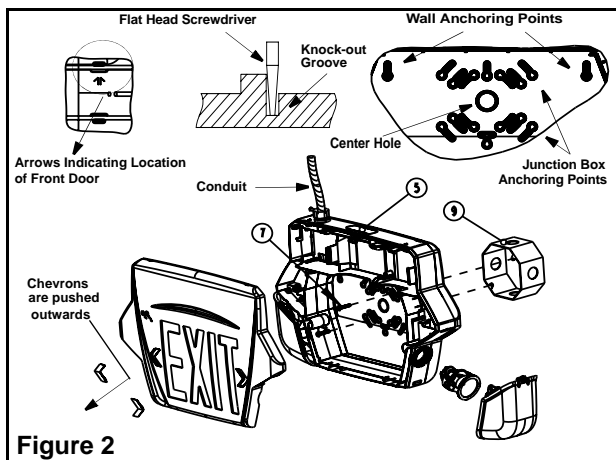
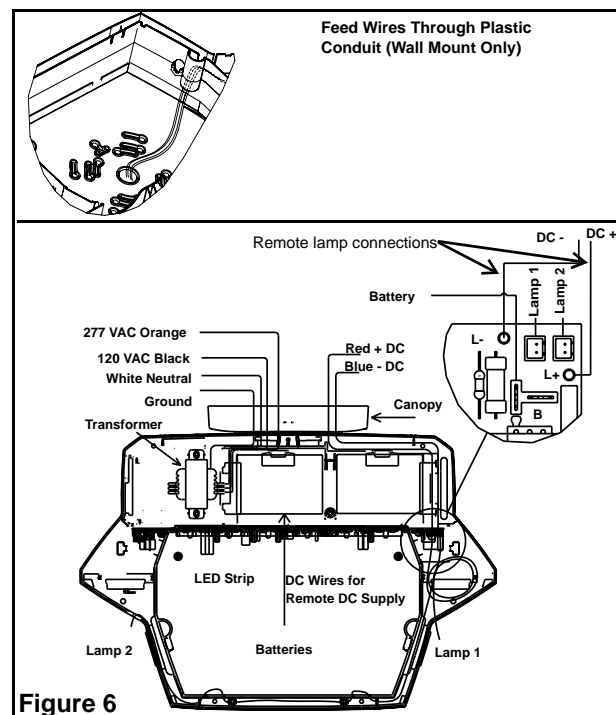

Figure 2
Figure 6
3. Remove face plate screws (only for some models). Remove the combo front door using a coin or a screwdriver at the top or bottom of the door. Arrows on the frame point towards the front door (See Fig. 2).
4. Determine the mounting position (wall or ceiling). Note: a canopy(6) is required for ceiling mount.
No canopy required. Remove the battery(s) with wires. With the help of flat head screwdriver, knock out the proper hole pattern on the back cover, including the center hole, to mount to a standard junction box as well as the two wall anchoring points (See Fig. 2). Install means to anchor unit in line with "Wall anchoring points". Feed the AC supply leads (and DC leads for remote lamps if applicable) around inside the housing, through the plastic conduit and out through the center hole and make the proper connections (See Fig. 6). Feed the excess wire into the junction box. Secure the back plate to the wall at wall anchoring points using wall mount screws(16), then to the junction box using the junction box screws(7). Proceed to step 6.
Remove knock-out for the conduit entry located on the top of the central housing (See Fig. 2).
7. Remove the appropriate chevron(s) on the exit door by holding sign with both hands. Push chevrons from the inside with thumb (See Fig. 2). You will need to unsnap the diffuser panel to do so.
8. Connect battery "T Connector" to PCB ("B" connection) (See Fig. 6).
9. Remote lamp(s) connection : Feed external DC+ & DC- wires through unit and connect to internal wires using wire nuts provided (See Fig. 6).